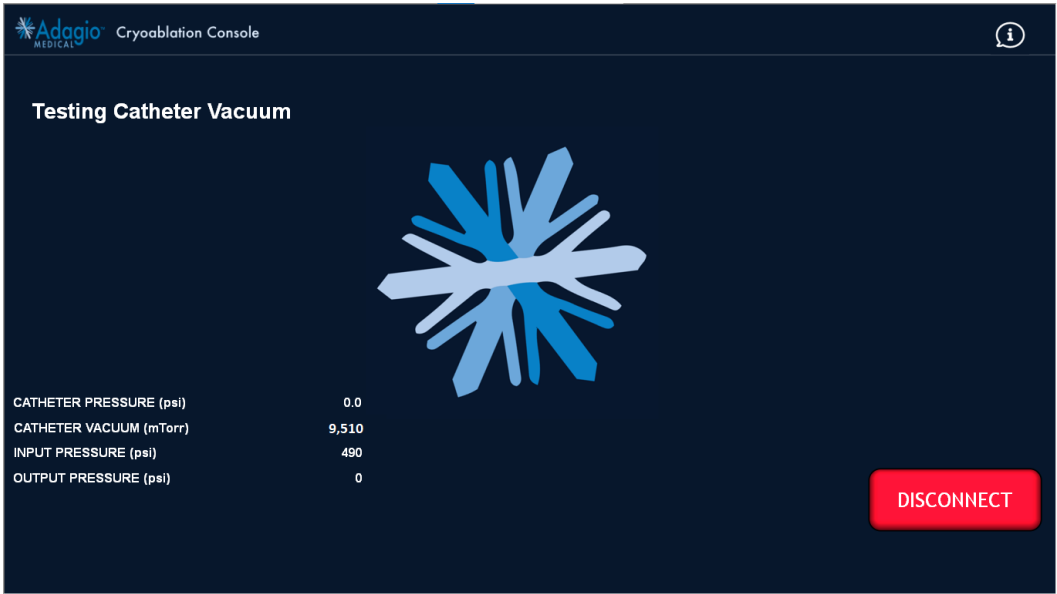
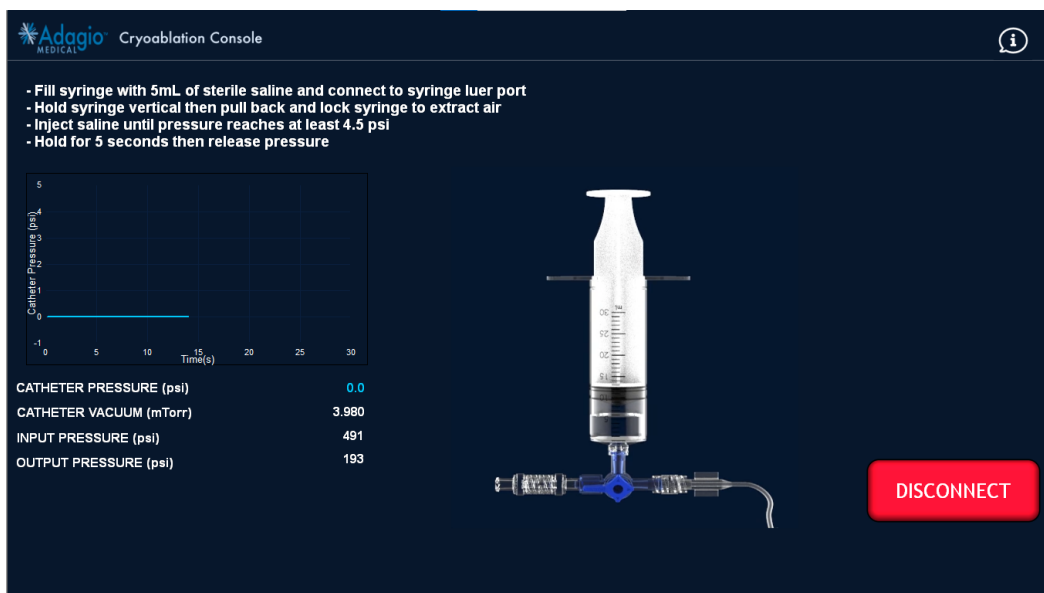
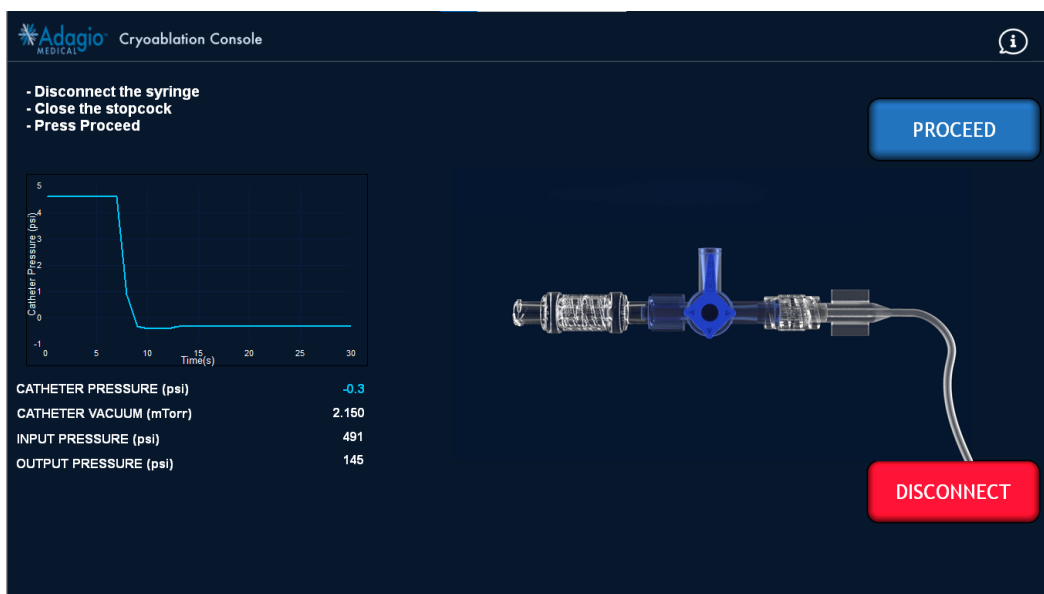

Figure 31 – Test Catheter Vacuum Screen Image
Figure 34 – Inject Sterile Saline Screen Image
Figure 35 – Close Stopcock Screen Image
8. After the catheter is successfully connected, the Console will automatically begin to test catheter’s vacuum (Figure 31). If the catheter vacuum test passes, the console will automatically proceed to ask for the catheter to be flushed as in Figure 34 screen.
9. To flush the catheter, inject sterile saline as displayed on the Screen (Figure 34). Refer to the Catheter's Instructions for Use for the injection procedure. After the catheter is injected with saline, disconnect the syringe and click on the "PROCEED" button.
10. After pressing "PROCEED" in Figure 34, monitor catheter pressure on screen. Follow instruction on animation (Figure 35) to close stopcock and press "PROCEED" to start Catheter self-tests.